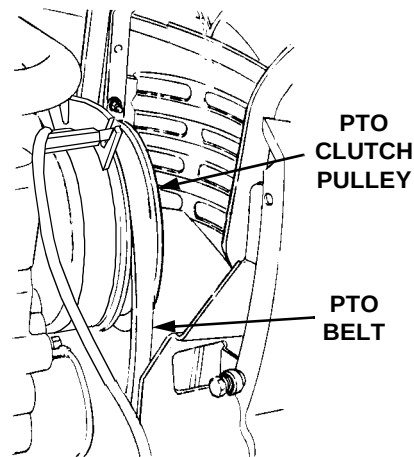

Figure 59
13. Install the forward end of the PTO belt on the PTO clutch pulley by passing the belt upward inside the front of the tractor frame. Ensure that the narrow side of the PTO belt engages the groove of the clutch pulley (Refer to Figure 59).